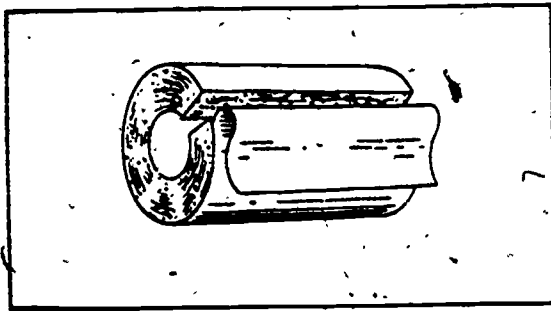

Figure 4-4. Woolfelt pipe covering.
d. **Woolfelt.** Woolfelt is made of matted fibers of wool, wool and fur, or hair worked into a compact material by pressure rolling. It is used on cold water service and hot water return lines. Woolfelt preformed pipe covering is manufactured in thicknesses of 1/2 to 1 inch, with a canvas jacket, as shown in figure 4-4. It is manufactured in 3-foot lengths to accommodate straight runs of pipe.